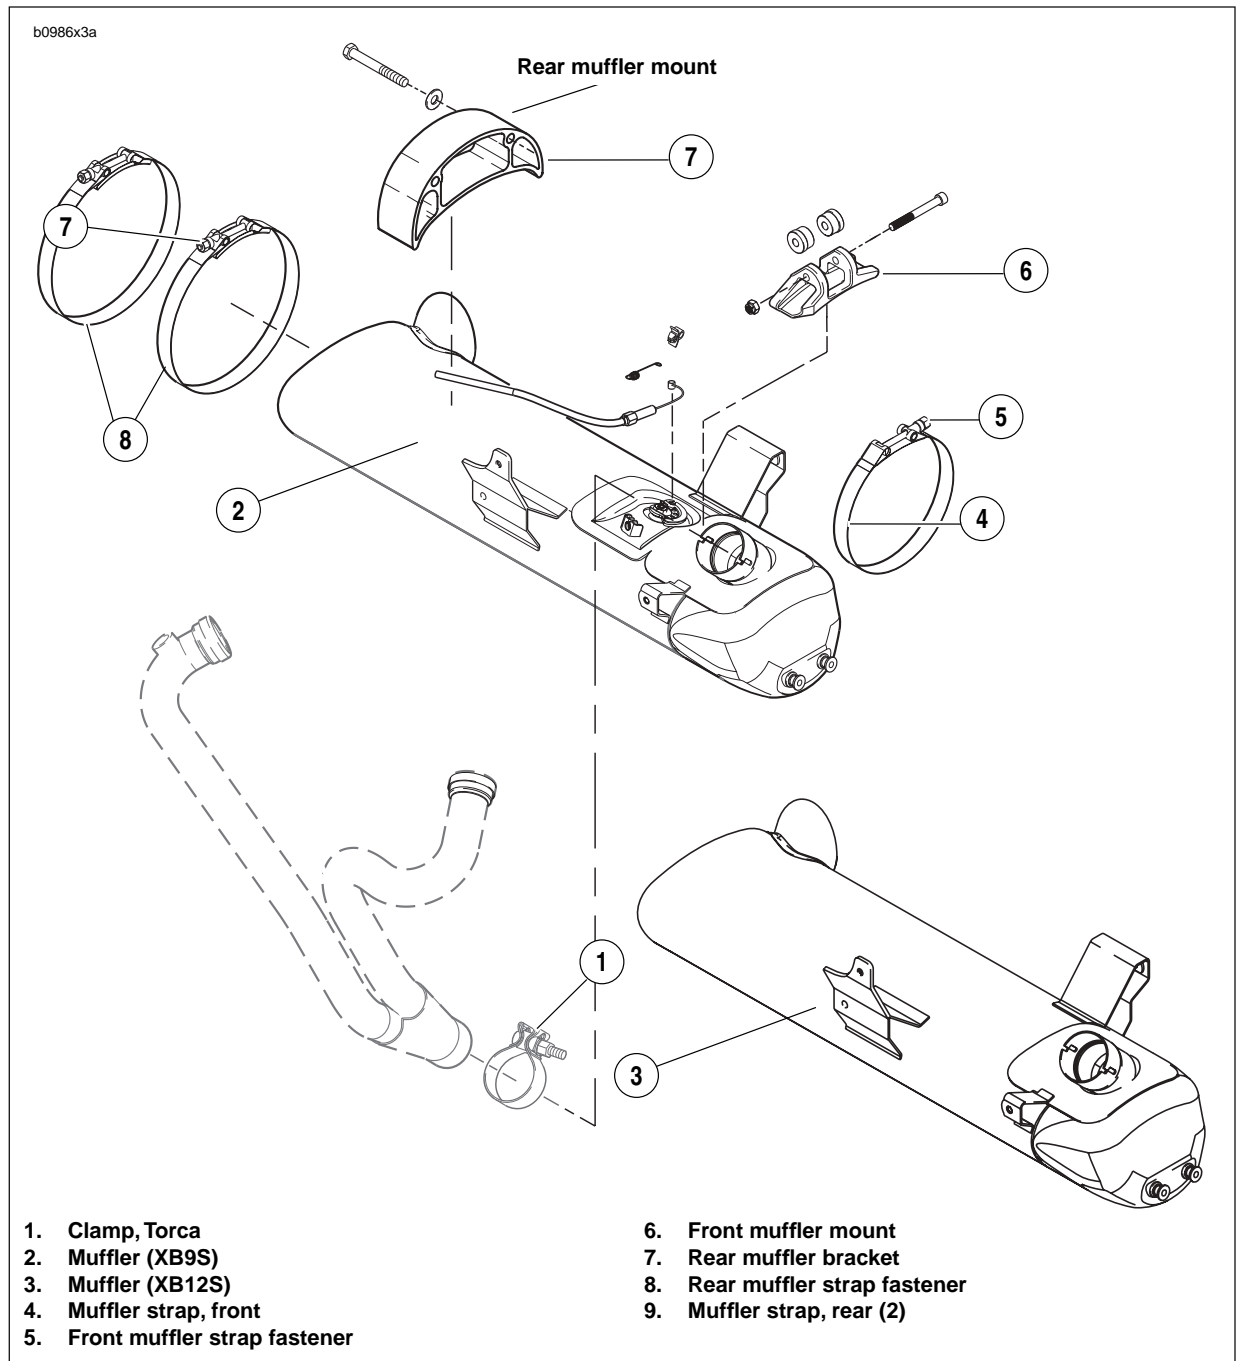

Figure 3-44. Muffler Mounting System (XB9S) and (XB12S)
19. See Figure 3-44. Apply LOCTITE 271 (red) to rear muffler bracket fasteners, install and tighten to 32-36 ft-lbs (43.4-48.8 Nm).